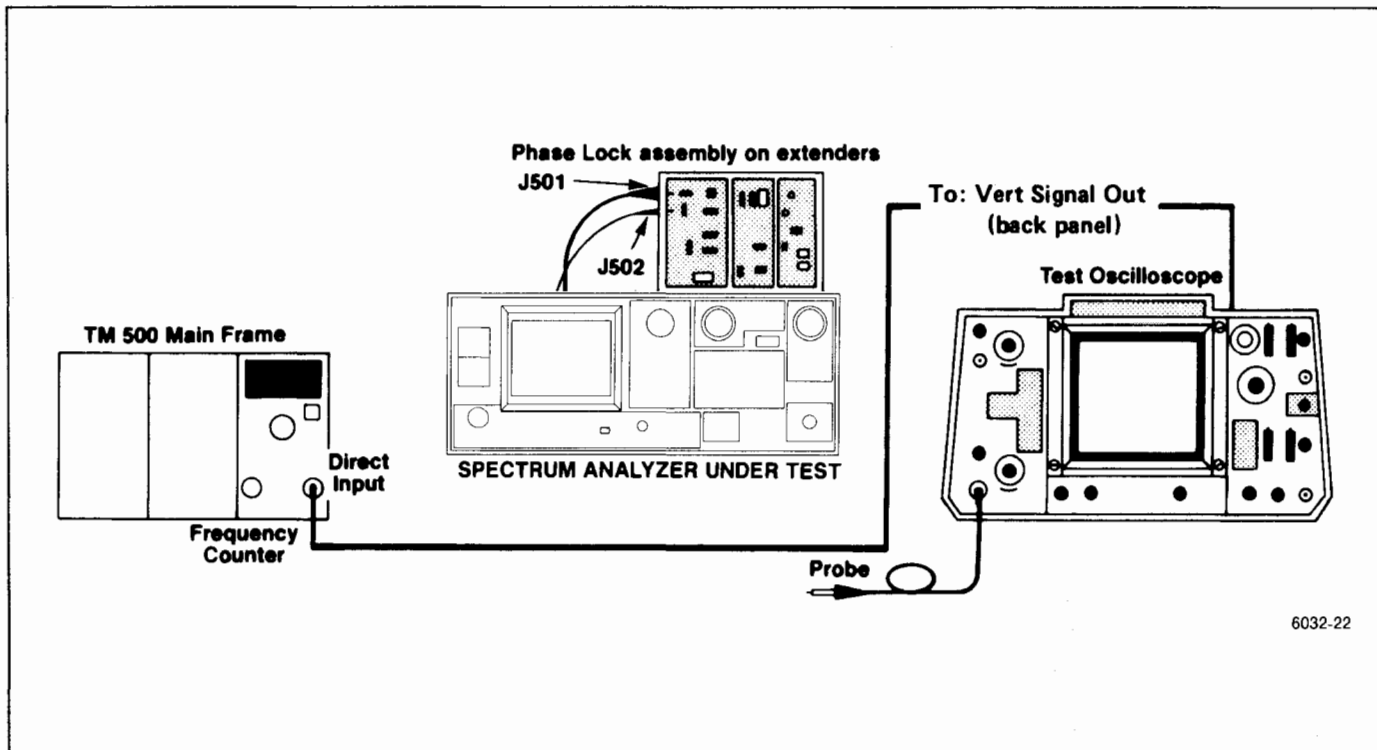

Figure 5-26. Test equipment setup for adjusting the Phase Lock assembly.
a. Test equipment setup is shown in Figure 5-26. Remove the Phase Lock module and the two cover plates so all circuit test points and adjustments are accessible. Plug the assembly on extender boards and into the instrument. Use extender cables and adapters to reconnect signal cables to their respective connector (cable with yellow band to J501, and the cable with black band to J502).